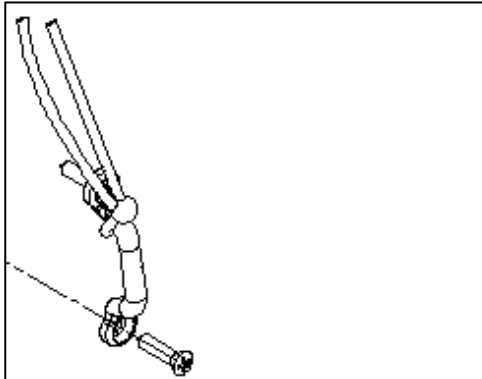

Figure 4
- Inspect the release cord. Attach it to the anchor point if loose. (Fig. 4)